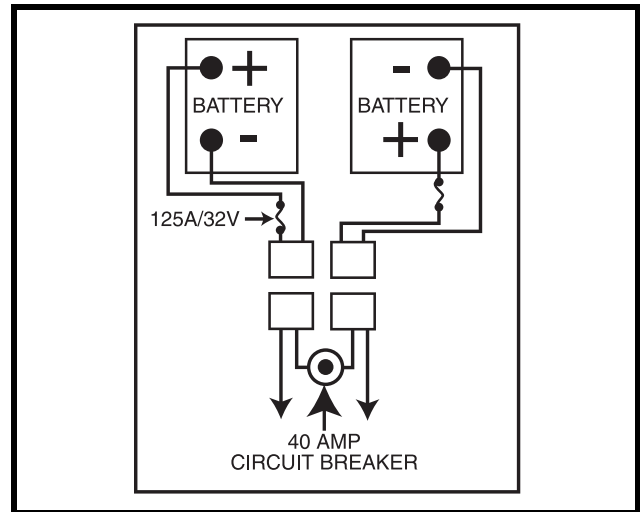

Figure 12. Battery Wiring Diagram
- Place a new battery in each battery well. Face the battery terminals of each battery away from the seat post. **See figure 12.**